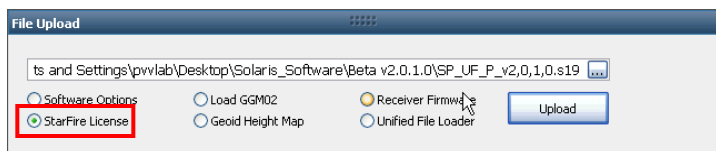

Figure 34: StarFire License
71. Select *StarFire License* in the *File Upload* window on the *Receiver Options* tab (see Figure 34).
74. Select the StarFire License file. The path to the file appears in the upload field (see Figure 34).